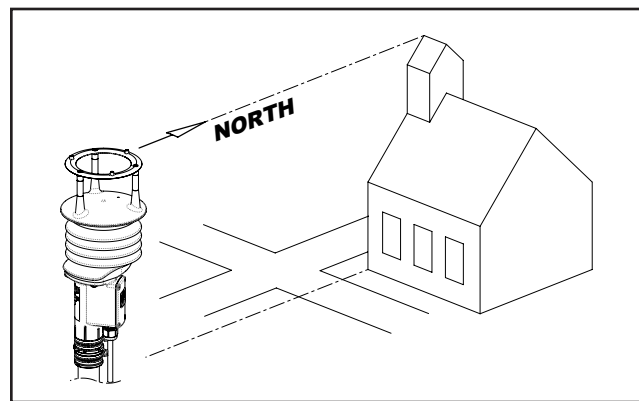

Fig 4.2.1 Sighting of Wind Sensor using Geographic Feature
- 3 Obtain accurate geographic data for the installation site, this can be a topographic map, graphical GPS map or detailed road map. Using the "N" marking, align the sensor with a remote feature that represents the proper orientation (Fig 4.2.1). After alignment, tighten the mounting post band clamp to secure the position. **DO NOT OVER-TIGHTEN.**